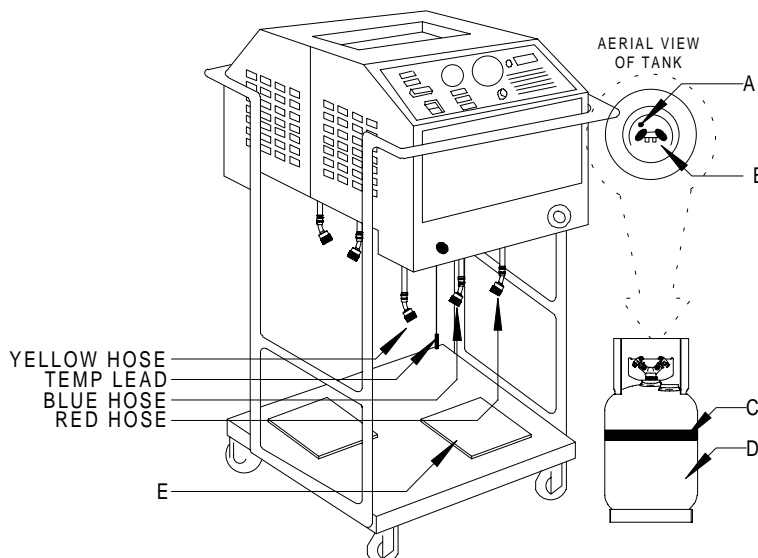

FIGURE 3 TANK INSTALLATION
10. Referring to FIGURE 3, place Recovery Tank (D) on Scale (E). Tank fittings should face straight out the front of unit.
11. Connect the Yellow Hose from the bottom of unit to the purge valve (A) shown in FIGURE 3 on top of the Recovery Tank. Connect the Red and Blue Hose from the bottom of the unit to the **RED & BLUE** valve (B) respectively on the Recovery Tank.